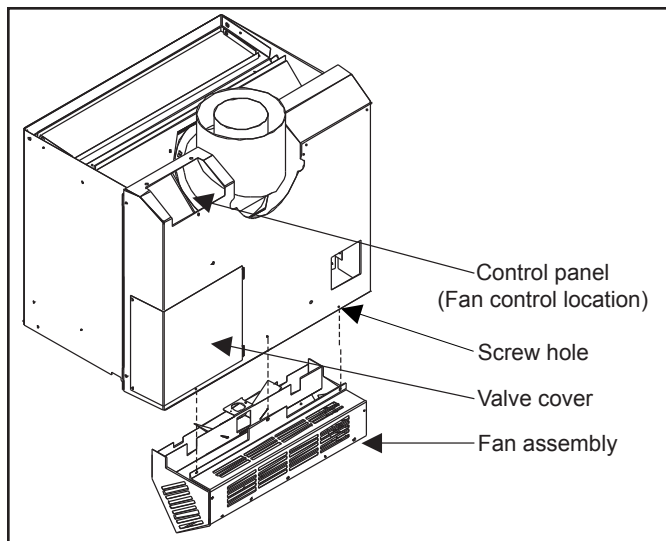

Figure 47: Optional Blower (Fan) Installation.
2. Place the fan assembly behind the unit and secure with the three screws provided, (as shown in Figure 47).